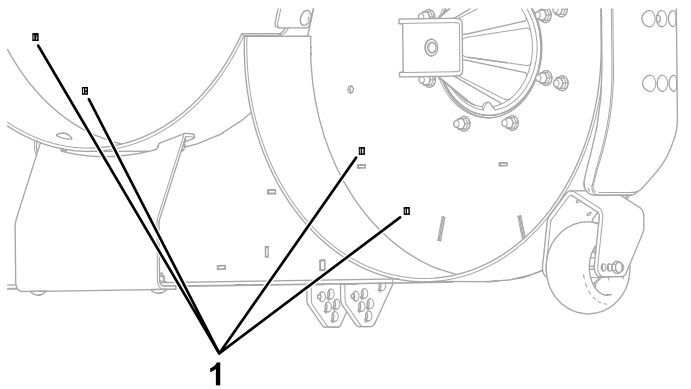

Figure 5
1. Remove the 4 plugs from the mower deck (Figure 5).